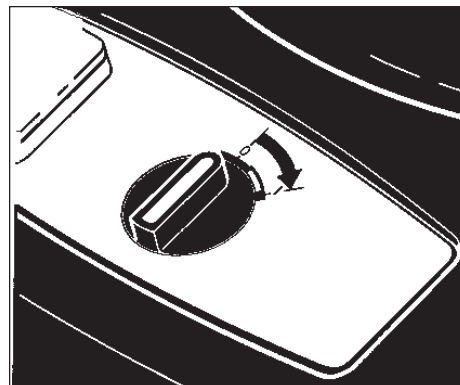

Figure 3
1. Open the retaining clamps and lift off the machine top section (Figure 3).
Turn the switch to position "I" (Figure 3).